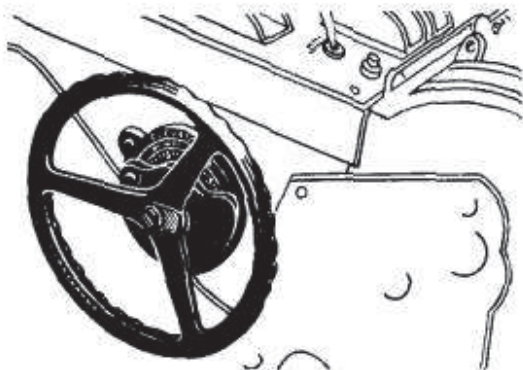

Figure 60 — Trim Tabs Set
e. Set trim tabs for take-off: tail heavy 5 degrees (for normal loads). (See figures 60 to 61.)